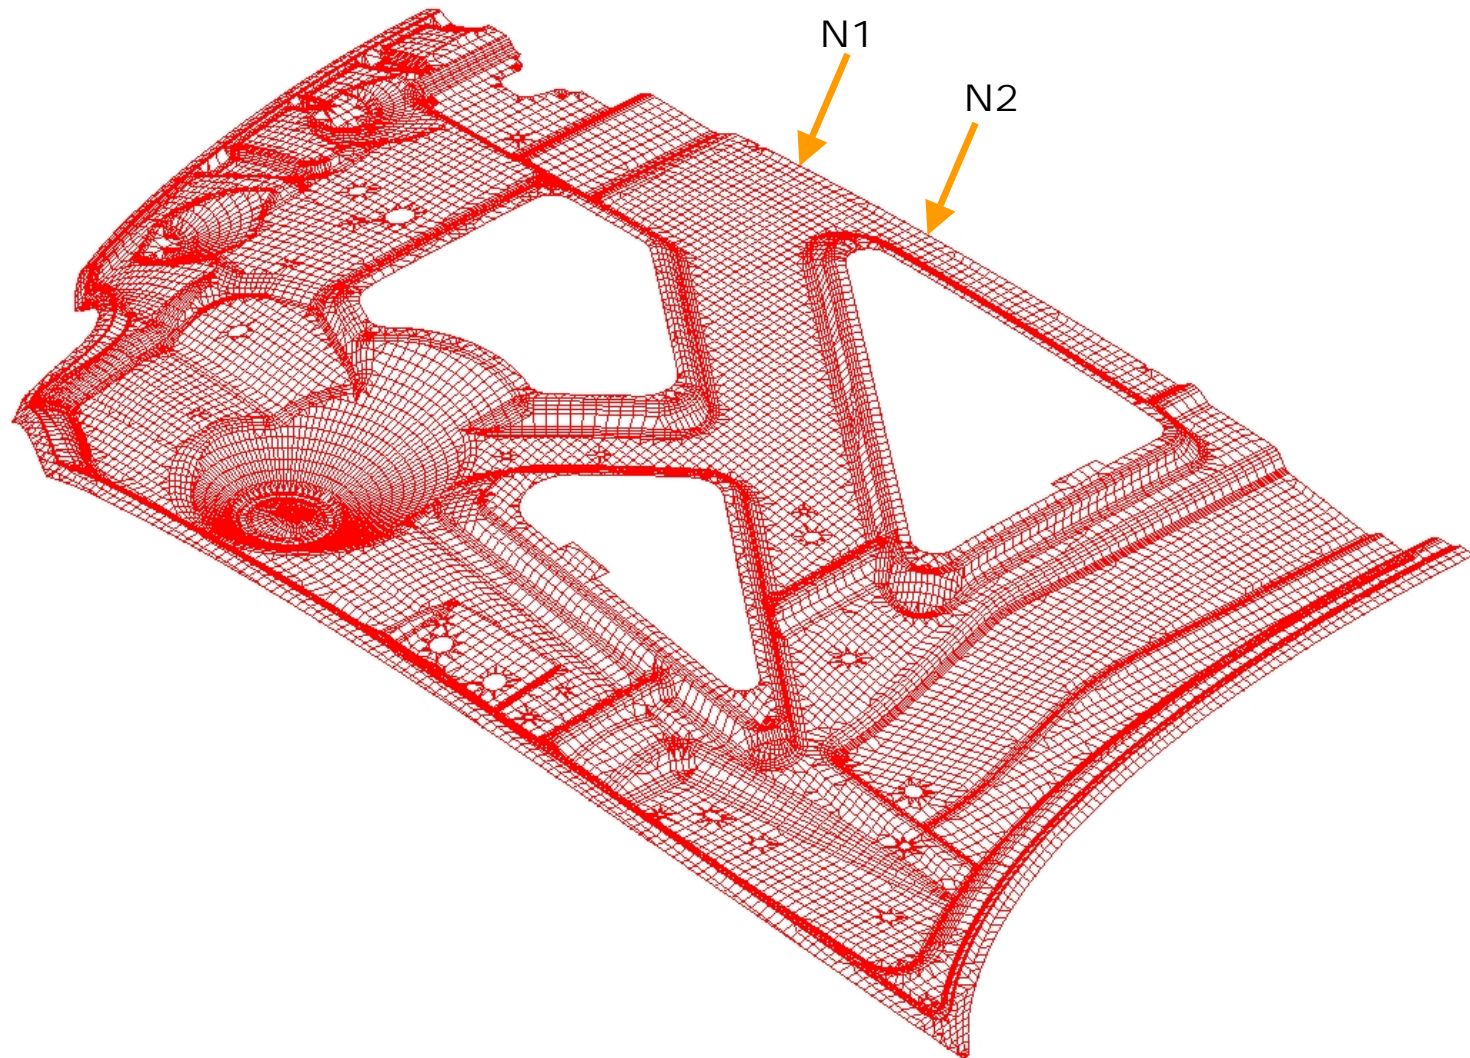

Figure 4.12
- Select two nodes as shown in Figure 4.12